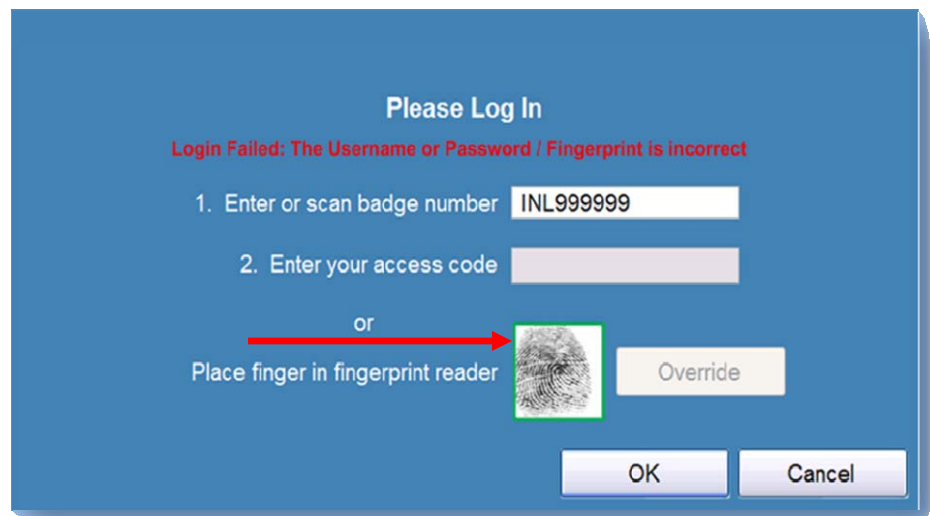

Figure 3-1: Login Screen
- (1) When the login screen appears SCAN your inspector badge barcode.
- (2) Place your finger on the finger print reader, following the placement directions from section 2, and hold until fingerprint is displayed in the box.
**Note:** The fingerprint that is displayed is only an image and is not your actual fingerprint. (See Figure 3-1 below)
- (3) A fingerprint is captured if a **green line** is displayed around the fingerprint icon. If a **red message** is displayed
using a different finger that was collected. If the same response is received consistently when using other fingers new prints may need to be collected. (See Fig 3-1)